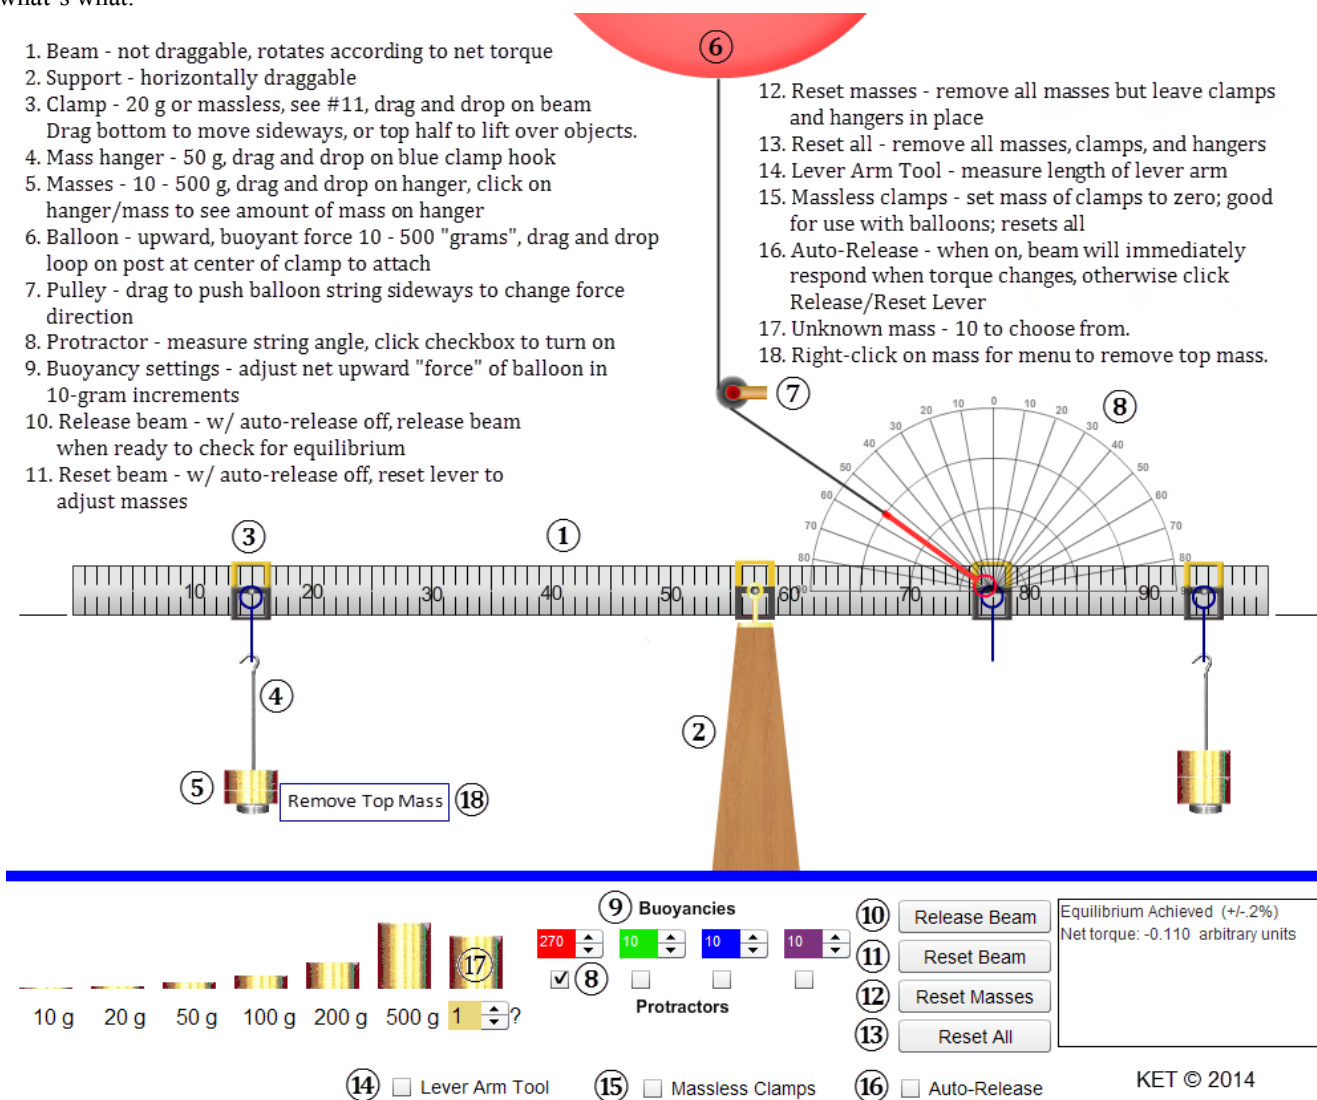

Figure 1: The Beam Balance Apparatus
Let's set up the apparatus just as it appears in Figure 1.
3. Add 300 g to the mass hanger. Click on the masses and note that the info box confirms that there's 300 g on the hanger. Note the masses of the clamps (20 g) and hangers (50 g) in the list of information in Figure 1. So the total is 370 g. What if you put too much mass on a hanger? Try this. Right-click (Ctrl-click) on the masses on the hanger and click **Remove Top Mass** from the menu. This may come in handy later. OK, replace the mass you deleted.